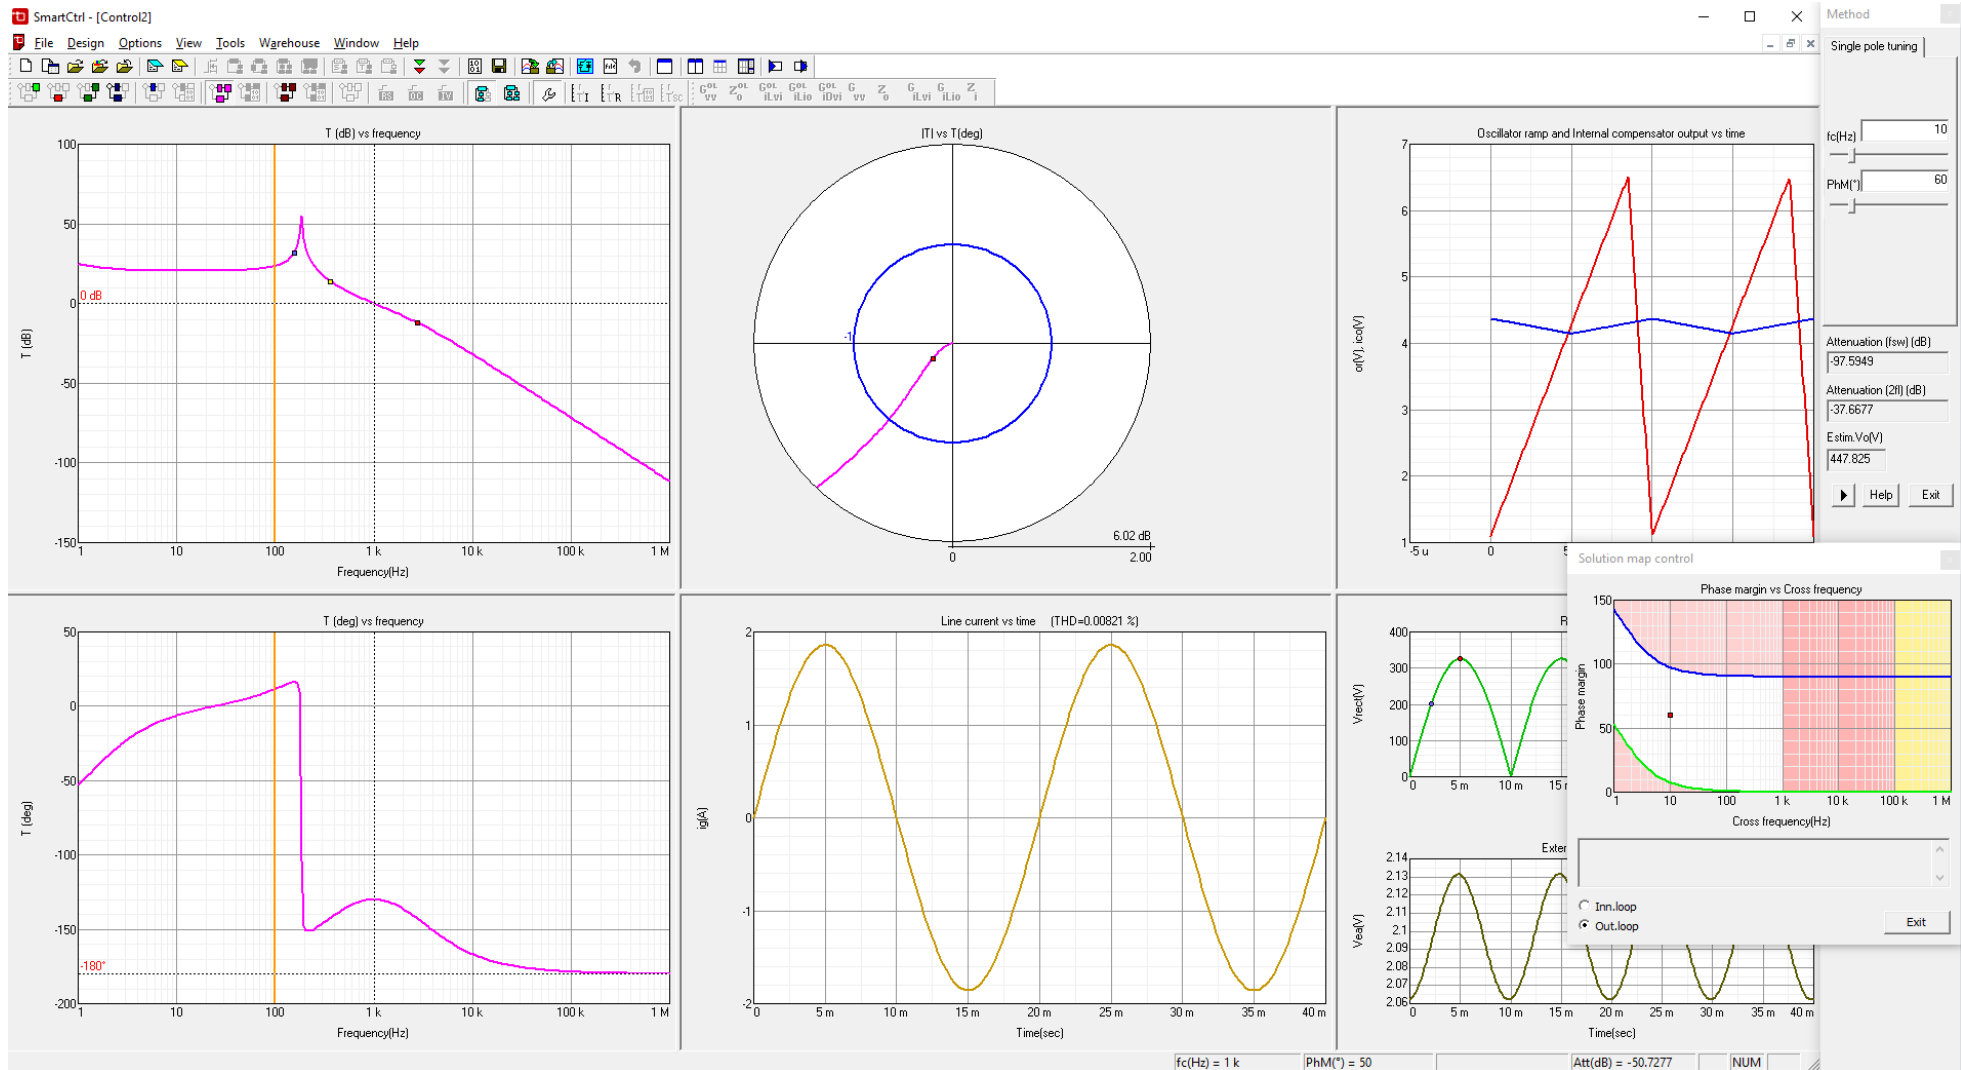
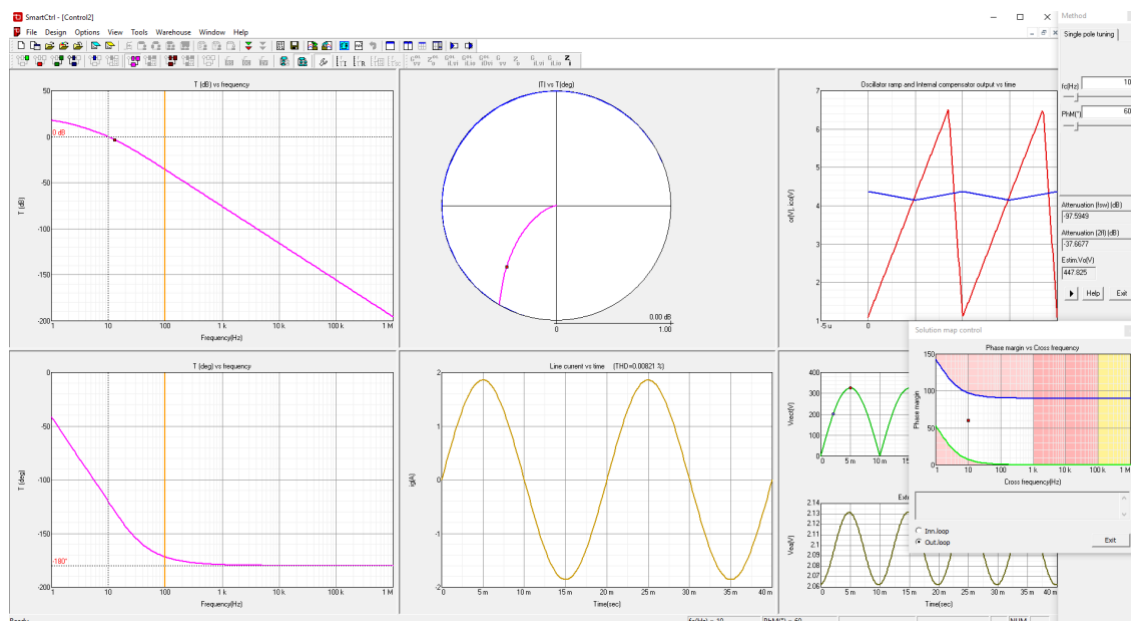

Figure 21: SmartCtrl main window for inner loop
Figure 24: SmartCtrl main window for outer loop
When the data input wizard finish, some panels appears so the user can check the dynamic response of the control already designed and adjust it. This window configuration can be seen in Figure 21.
For example, if PI compensator would have been chosen for the outer loop, a current distortion will appear in these traces. See Figure 21.
- Check the response to a small signal step – It gives information about the response of the system, if it is underdamped or overdamped. See Figure 21.
- Check the bandwidth with the bode plots – The crossover frequency in open loop is pretty close with the closed loop bandwidth. See Figure 21.
- Check the stability with the Nyquist plot – it provides quick-understanding info about the stability of the system. See Figure 21.
The Bode plots and Nyquist plot corresponding to the inner loop are shown in Figure 21, as well as the graphical information regarding the outer loop is shown in Figure 24. **Error! Reference source not found..** In the right panel "Method", three parameters appear: